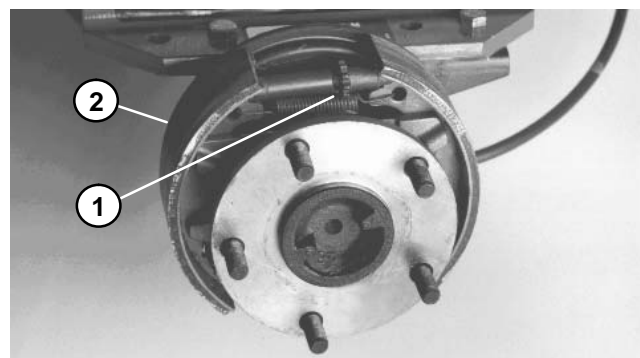

Figure 13
4. Loosen (do not remove) the five (5) wheel lug nuts.
6. Remove brake drum. Rotate star nut until there is contact between brake shoes and drum when drum is installed (Fig. 13).